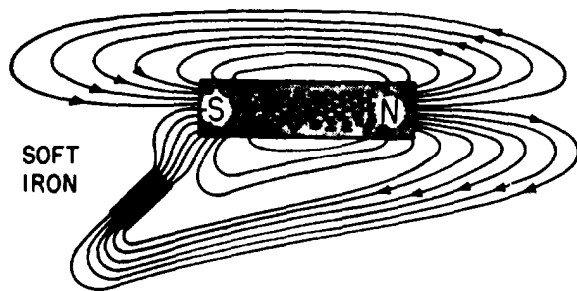

Figure 4-1.—Effects of a magnetic substance in a magnetic field.
**MAGNETIC SHIELDING.**—There is no known **INSULATOR** for magnetic flux. If a non-magnetic material is placed in a magnetic field, there is no appreciable change in flux—that is, the flux penetrates the nonmagnetic material. If a magnetic material (for example, soft iron) is placed in a magnetic field, the flux may be redirected to take advantage of the greater permeability of the magnetic material, as shown in figure 4-1. Permeability is the quality of a substance that determines the ease with which it can be magnetized.